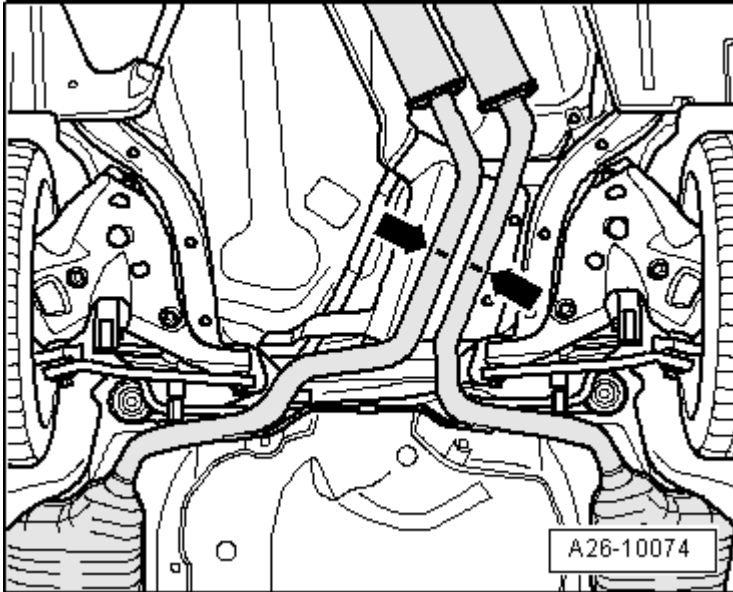
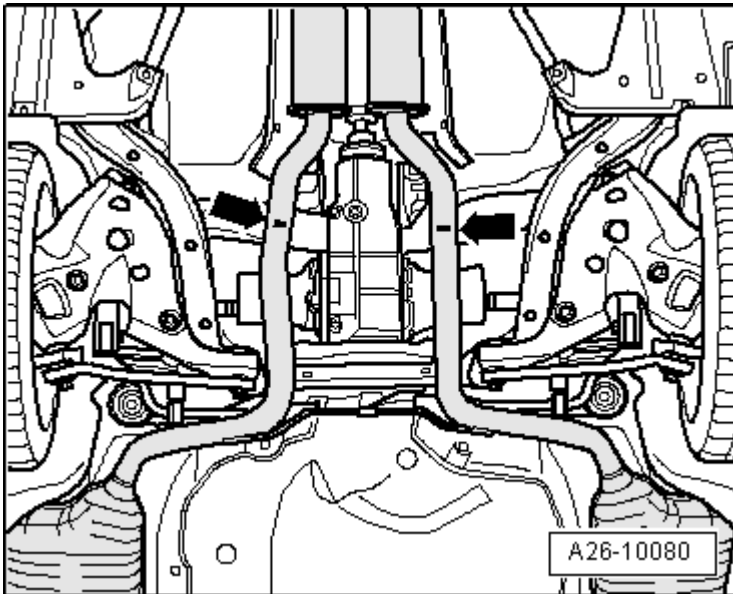

Fig. 512: Separating Exhaust Pipes At A Right Angle At Separating Point Using Chain Pipe Cutter VAS 6254
Fig. 515: Separating Exhaust Pipes At Separating Point Using Chain Pipe Cutter VAS 6254 At Right Angle
- Center muffler/rear muffler separating point: Vehicles with front-wheel drive --> **Fig. 512** , Vehicles with all-wheel drive --> **Fig. 515**